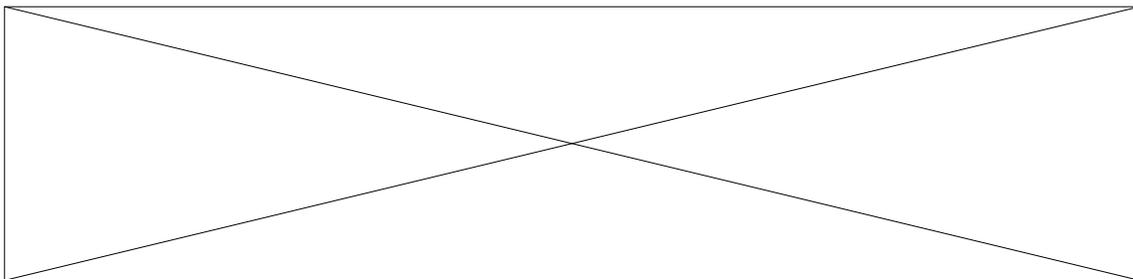

Figure 7-6. Instruction Timing and Timer/Counter Operation
Please refer to Figure 7-6. The internal system clock is divided by three (3) to generate the state clock. The state clock is then again divided by five (5) to generate the cycle clock. Consequently, an instruction cycle takes fifteen (15) system clock cycles to complete. The cycle clock is again divided by 32 to further generate the timer clock.
The 8-bit timer/counter is configured by software in the ROM. Please refer to Figure 7-6. To enter the timer mode, the micro-controller executes the STRT T instruction. In the timer mode, the input of the 8-bit counter is derived from the system clock divided by 480 (the timer clock).